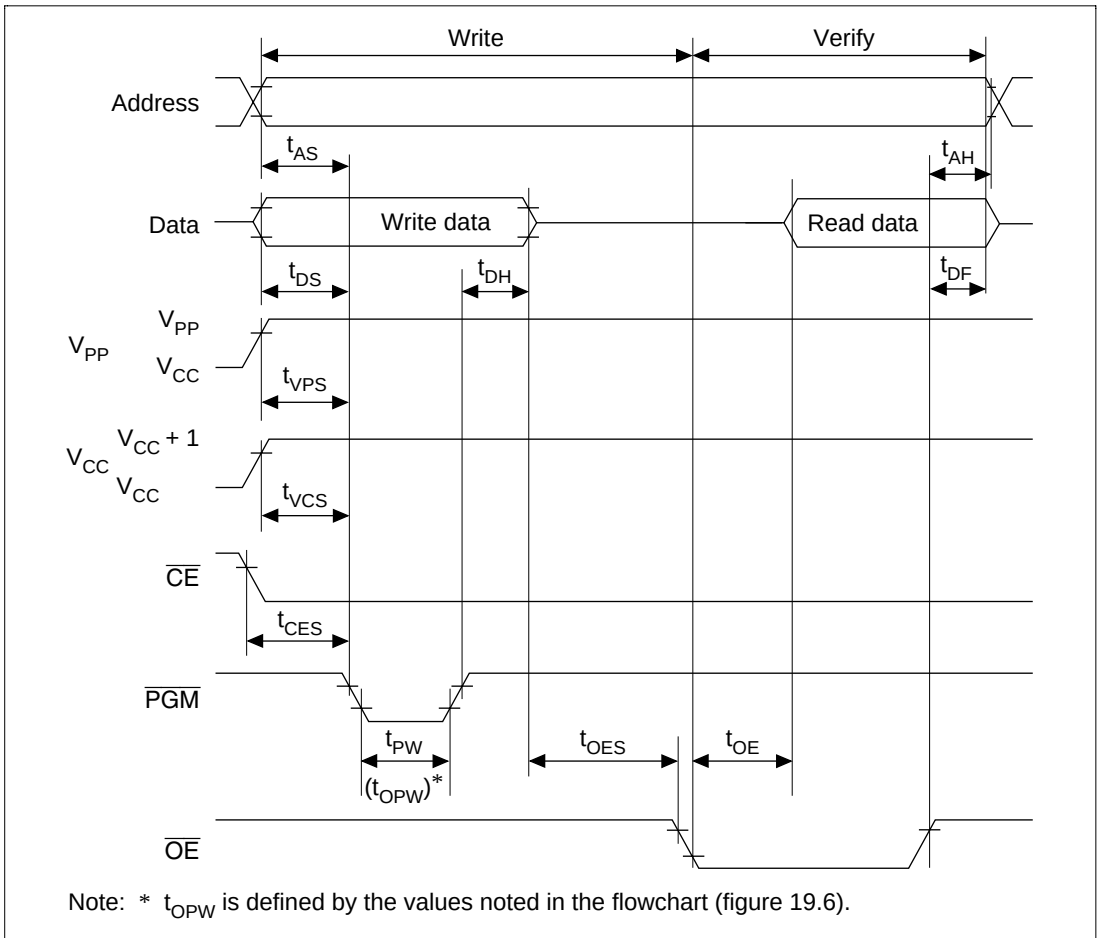

**Figure 21.7 Write/Verify Timing**
**Electrical Characteristics:** Tables 21.3 and 21.4 show the electrical characteristics for programming. Figure 21.7 shows the timing.